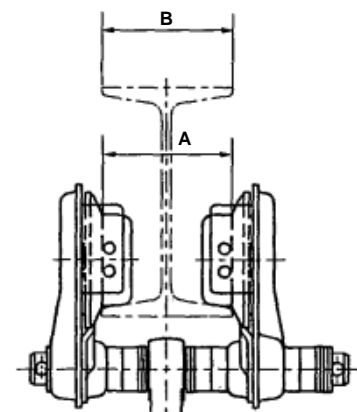

Fig. 6
- (1) Make sure that the direction is as shown in Fig. A to E.
- (2) The right and left side plates should be as far apart as possible, and the difference between A and B should be approximately 4 mm (Refer to Fig. 6).